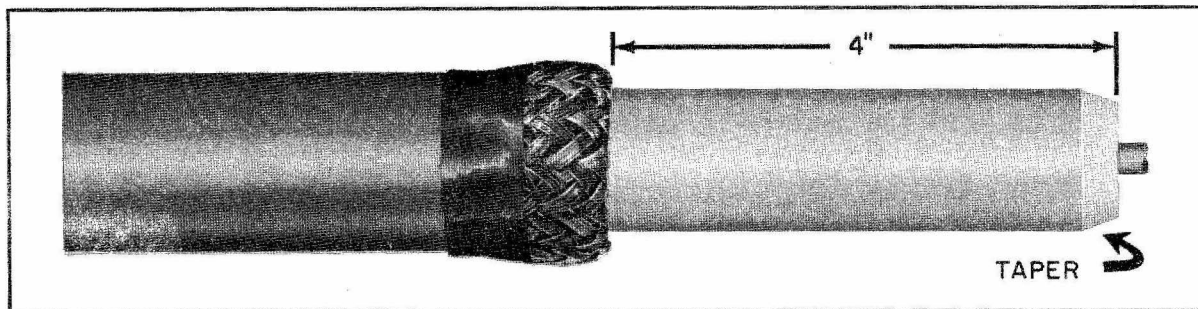

Figure 5-8d. Inboard End of Cable
Step 3. - Cut around the jacket at a point 4 inches from the terminating end of the cable on the inboard side. Make a cut the length of the 4.0 inch section and remove the jacket. Cut around the outer conductor braid at a point 3.0 inches from the terminating end and remove this section. Fold the remaining outer conductor braid back onto the jacket and tape tightly to the jacket. Figure 5-8d illustrates this step.